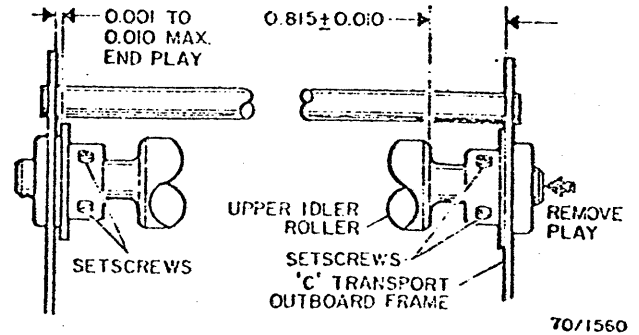

Fig. 3-206. Upper Idler Roller
2. Adjust the roller in accordance with Fig. 3-206.